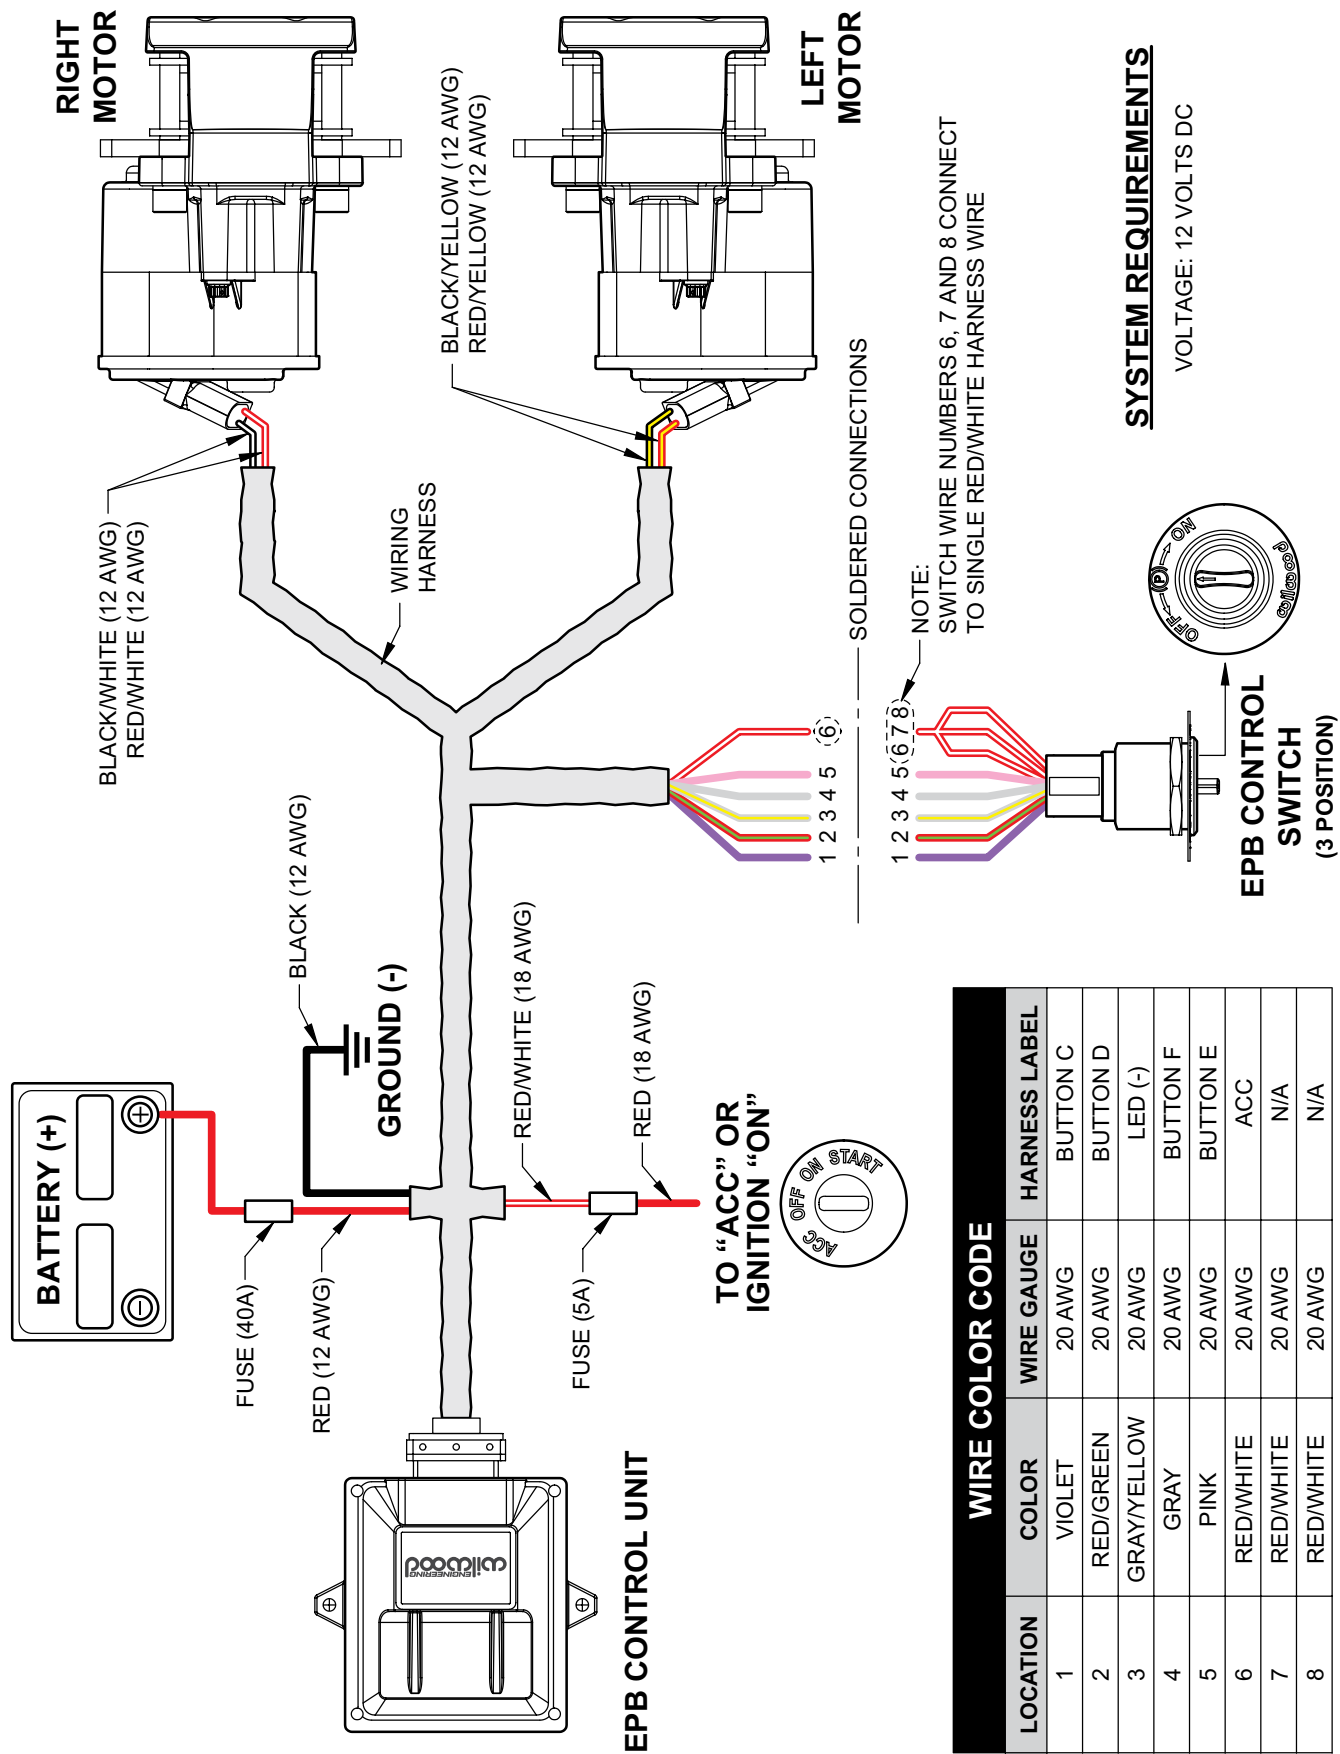

Figure 4. EPB Wiring Diagram
- **EPB WIRING HARNESS** - All wiring harness leads are labeled – refer to wiring diagram, Figure 4. Carefully route harness cables/wires to prevent contact with moving or rotating components and away from heat sources and pinch points. **NOTE:** *Wilwood EPB harness is designed for use in many different vehicle applications and it is the installer's responsibility to properly route cables/wires and ensure adequate clearance and retention for EPB components.*
Wiring Installation - Refer to wiring diagram, Figure 4